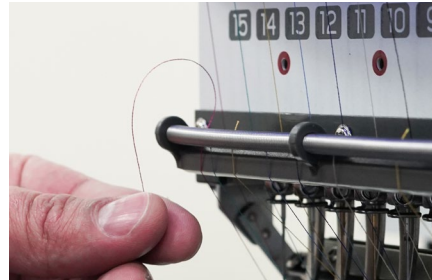

Figure 17
2. Pull the thread up, and place the thread on the spring until the machine is ready to embroider. We recommend leaving one to two inches of thread hanging and trimming the excess. **See Figure 17.**